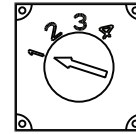

Figure 5: Regulator Voltage Selection Switch (on back of regulator)
1. Turn regulator over and make sure set point of switch on back of regulator is appropriate for type of battery used. If necessary, change switch setting. See Figure 5 and Table 1 for voltage set point options.